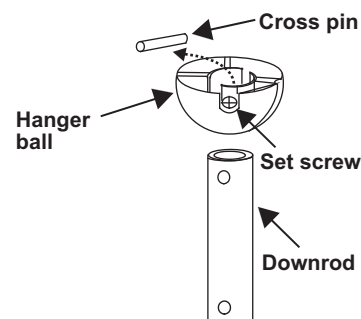

Figure 4
4. Remove hanger ball from down rod assembly by loosening set screws, removing the cross pin and sliding ball off rod. (Fig. 4)